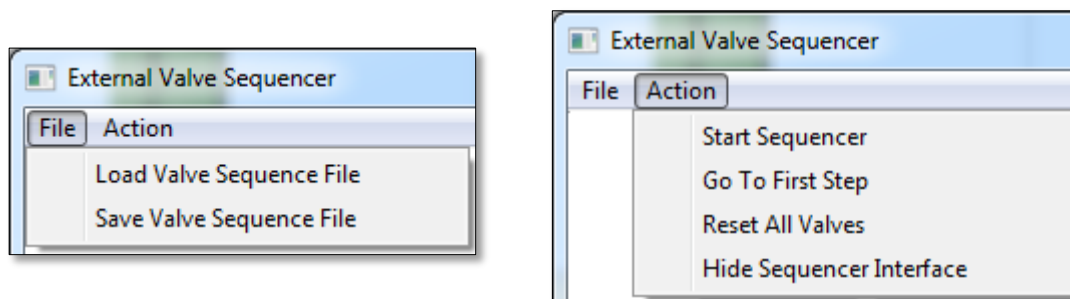

Figure 87: Valve Sequencer UI Dropdown Menus
- Once the valve sequence has been programmed, it can be saved by selecting **Save Valve Sequence File** under the **File** menu (Figure 87). The sequence may be saved with any name the user chooses.